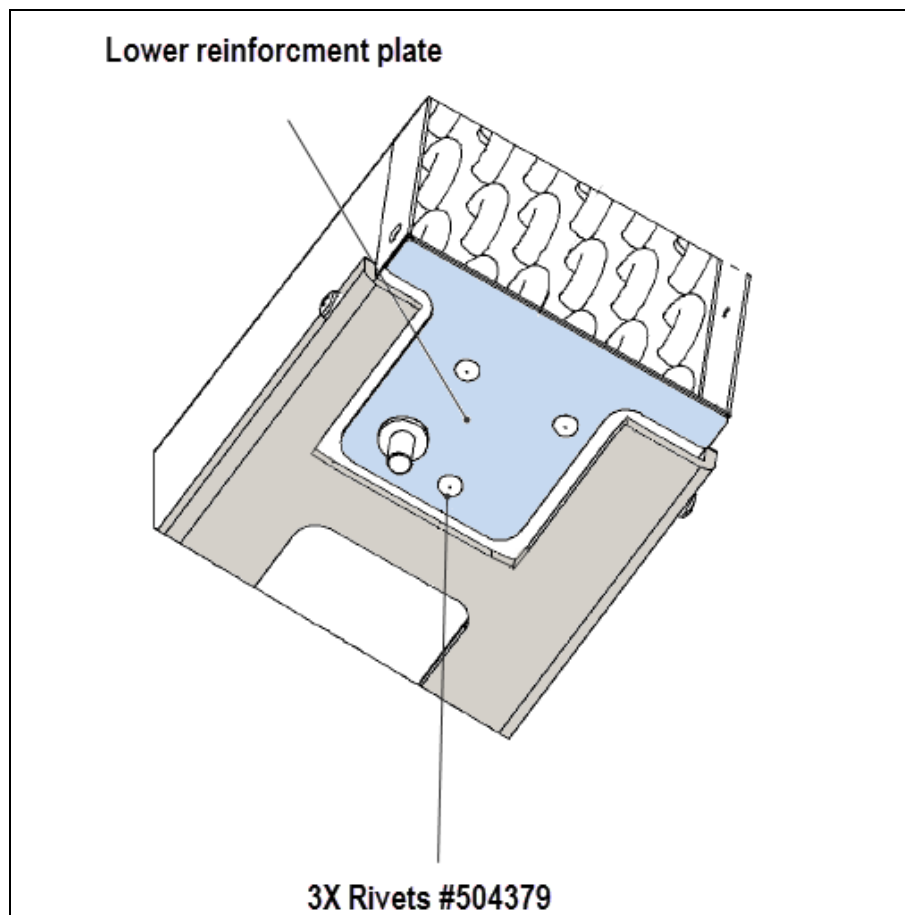

Fig.24
18. Once the three (3) holes are drilled, reposition the plate and secure it using the three (3) #504379 rivets included in the kit (Fig.24).